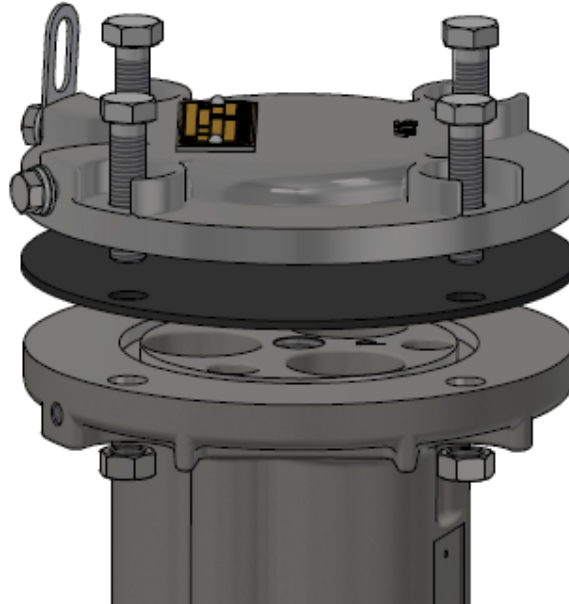

Figure 1 Exploded view of adapter cover plate assembly.
2. Place the gasket according to the exploded view in figure 1.